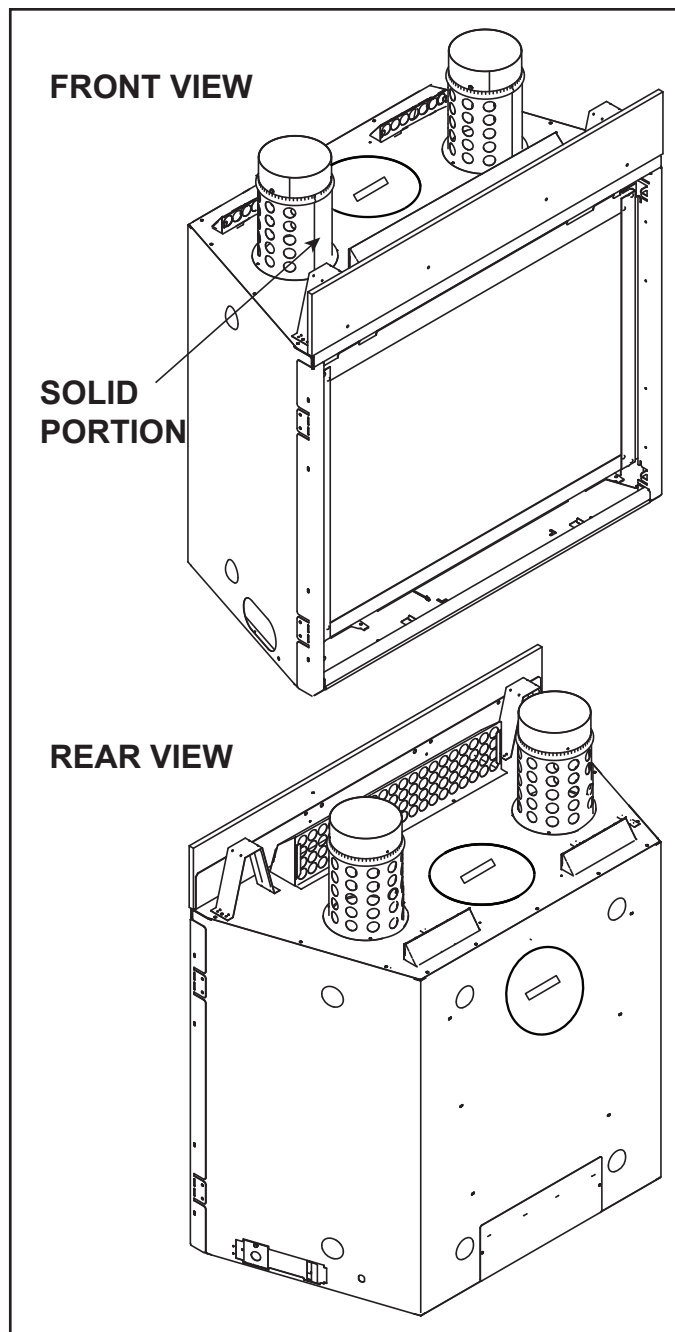

Figure 8 Adapters Installed
4. Center adapter over opening with the solid portion facing the front of the appliance as shown in Figure 8. Attach both adapters to appliance by installing three screws per adapter. Figure 8 shows adapters installed.